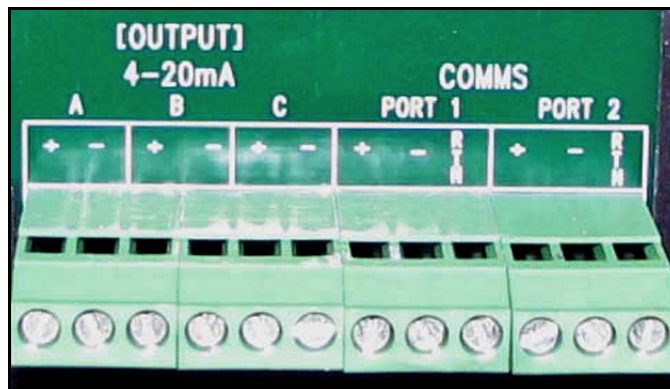

Figure 28: Input/Output Connections
- For operation on RS-232, connect RS-232(TXD) to (+), RS-232(RXD) to (-), and RS-232(GND) to RTN (see *Figure 28* below).